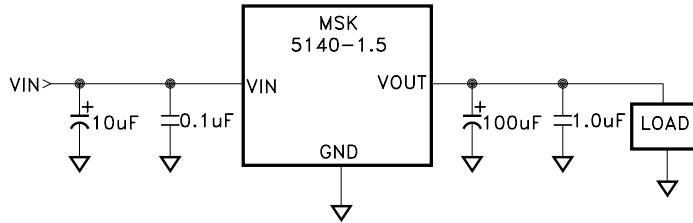

FIGURE 1
- ① The output is decoupled to ground using a 100μF low ESR tantalum capacitor in parallel with a 1μF ceramic capacitor. See figure 1 for typical circuit.
- ② Guaranteed by design but not tested. Typical parameters are representative of actual device performance but are for reference only.
- ③ Industrial grade devices shall be tested to subgroups 1 unless otherwise requested.
- ④ Military grade devices ("H" suffix) shall be 100% tested to subgroups 1, 2 and 3.
- ⑤ Subgroup 1 T_A = +25°C